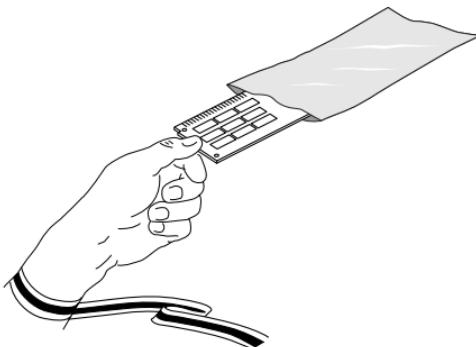

Figure 1-4 Unpacking the DIMM
Caution – Hold DIMMs only by their edges to avoid damaging them (Figure 1-4).
3. Unpack the DIMM, holding it only by the edges (Figure 1-4).